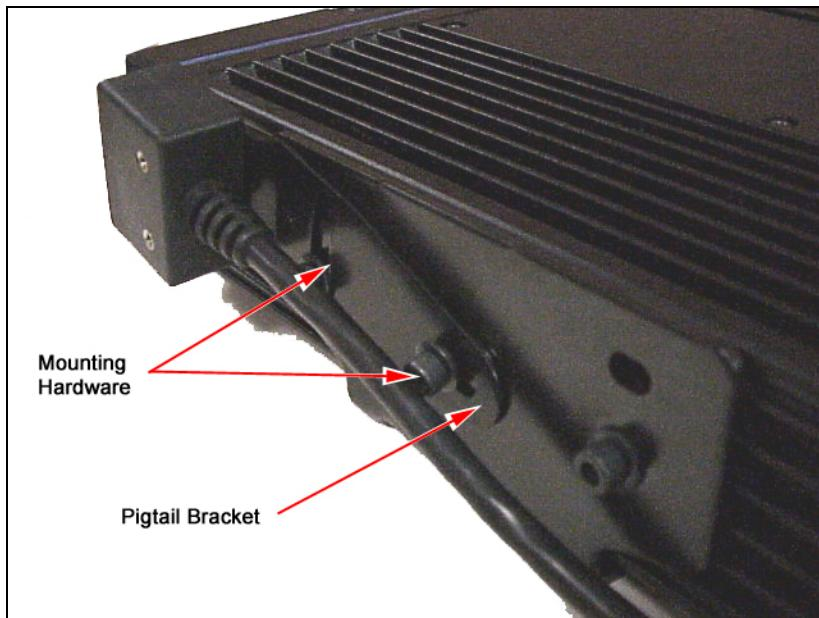

Figure 17 – Pigtail Bracket Mounted on Radio
5. The other slot in the Pigtail Bracket will enable flexible positioning of the pigtail. Position the bracket, and insert the remaining M5 x 10mm hex head screw and lockwasher. Tighten both of the hex head screws to 7 N-m (61 in-lb) to maintain the desired Pigtail position. See Figure 17.